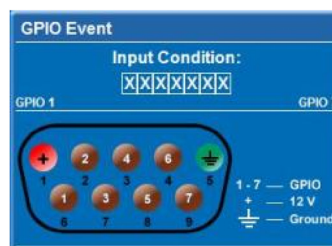

FIGURE 4-15 GPIO OUTPUT HELPER
- If a **GPIO** command string is needed, click the **GPIO Output Helper** button for instructions on how to create the command structure. **NOTES:** **1)** The **Output** field contains 7 blocks which refer to the 7 I/O pins on the GPIO connector. Pin 1 = +12V and Pin 5 = Ground. These are not included. **2)** Clicking a block toggles between H, L, and X. **3)** If the Pulse check box is selected, those I/O Pins defined will pulse high or low. See *Figure 4-15 GPIO Output Helper*. See *Appendix B* for detailed information.